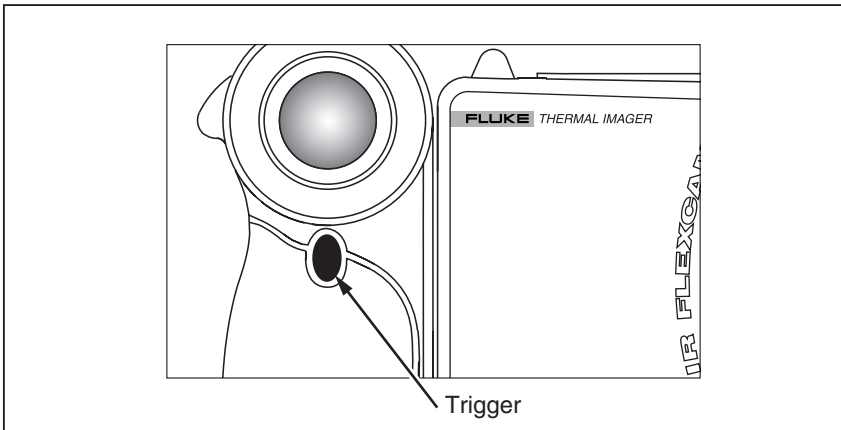

Figure 8. Capturing an Image
3. Tap the TRIGGER button as shown in Figure 8 to retain settings.